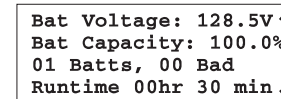

Fig 5-18 Battery Status Screen
- ❑ 5. Press the down arrow key to scroll to the battery status screen. See figure 5-18. Verify that the number of battery modules reported (01 in the example below) is the same as the actual number of battery modules that are installed. Verify that the number of “bad” modules reported is zero. Verify that there is a minimum of 90V of battery voltage reported.